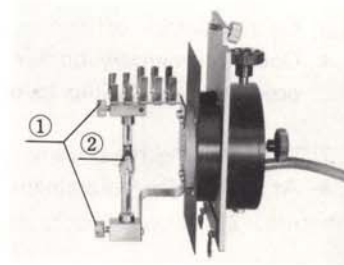

Fig. 1
- 2) Insert the lower electrode (marked "+") into the bottom terminal and tighten the clamping screws ① securely. (Fig. 1)
- ★ Ascertain that no dirt, fingerprints, etc. are left on the bulb surface, and when installing, be careful not to touch the bulb portion ②. If the bulb is stained, wipe the bulb surface clean with a small amount of alcohol-ether mixture or benzene.